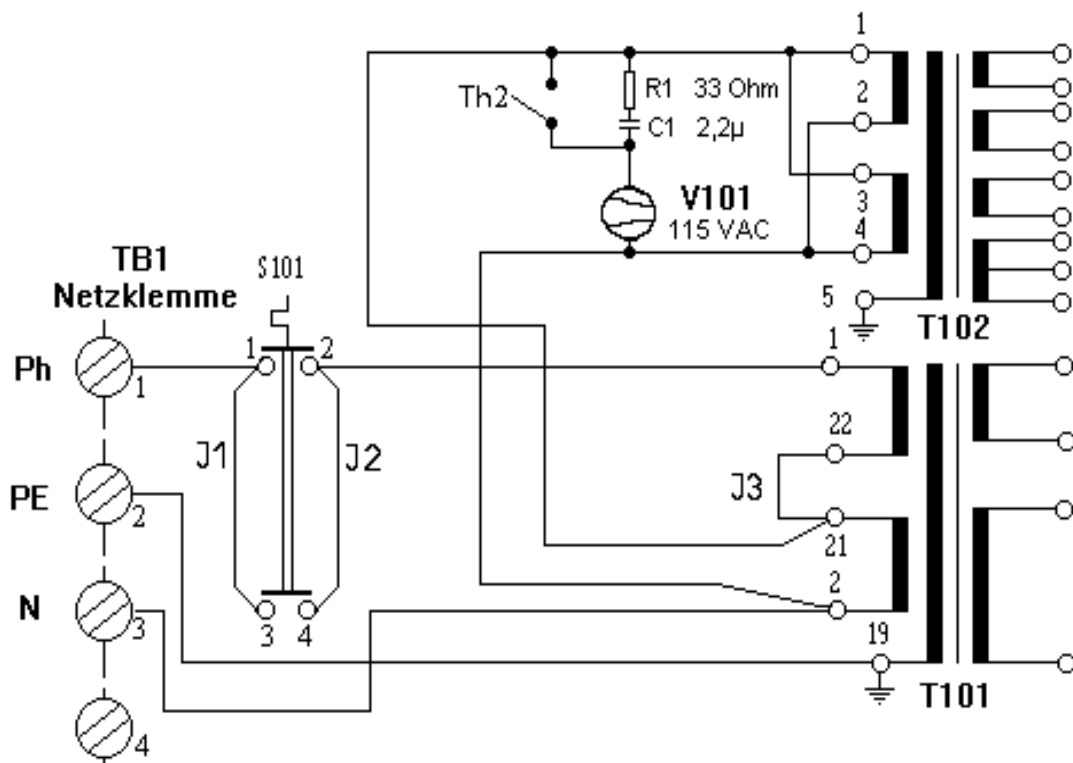

Fig. 14
4.1 Option 07: 115 VAC line connection (see Fig. 14)